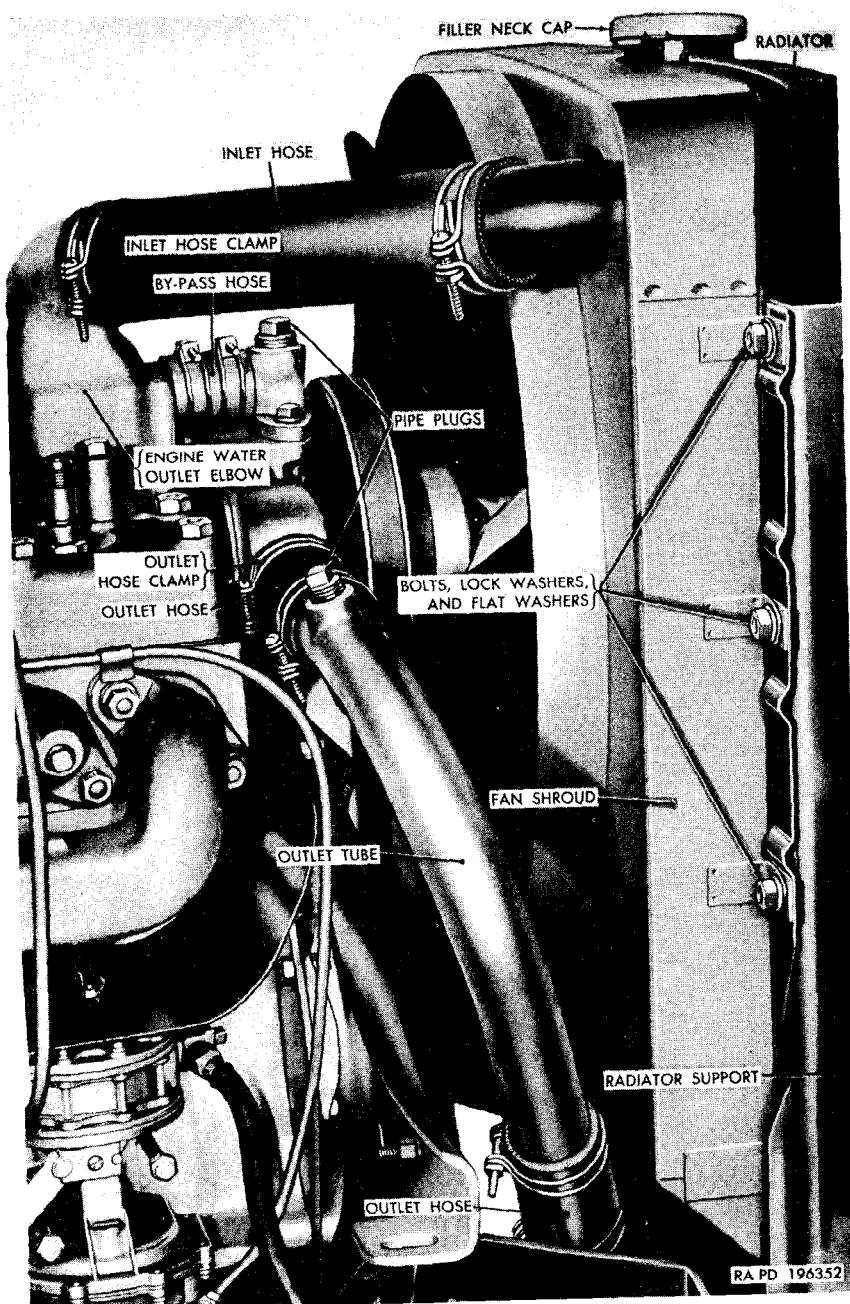
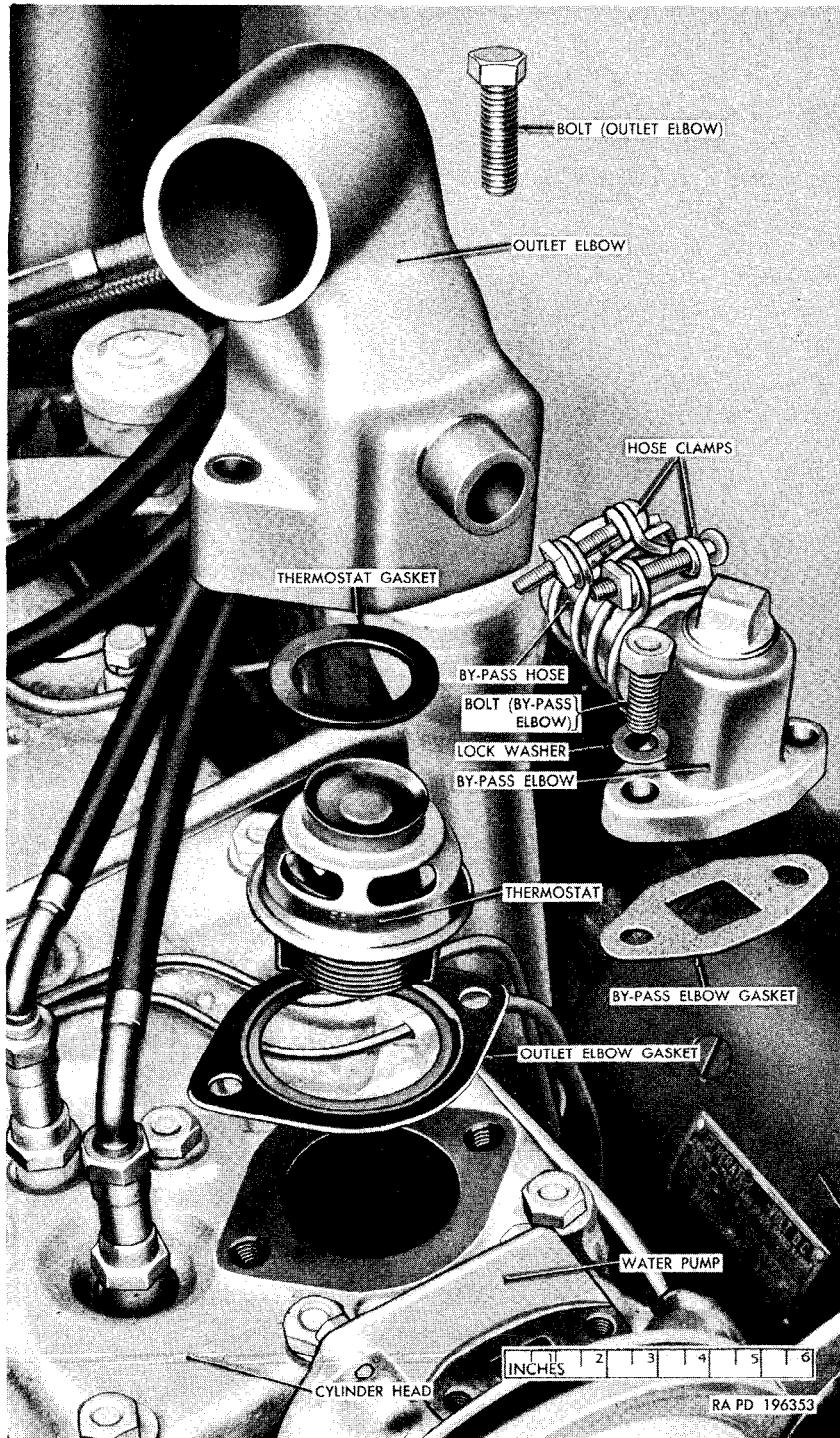

Figure 119. Radiator and hoses.
Figure 120. Water outlet elbow, thermostat, and related parts.
- (1) If radiator is hot, remove the filler neck cap (fig. 119) slowly to permit pressure to escape through the vent in the cap. Open the radiator drain cock (fig. 152) at front lower right corner of the radiator core. If cooling system contains anti-freeze, drain into a suitable container and save for use again.
- (2) Open the drain cock at the left side of the engine block.
- (*b*) Loosen the hose clamps on the radiator inlet hose and outlet hoses and remove the inlet hose and the outlet hoses and outlet tube (fig. 119).
- (b) Remove the radiator inlet hose (fig. 119), the water outlet elbow, and thermostat (fig. 120). Install the outlet elbow and gasket.
- (c) Loosen the hose clamp on the radiator outlet hose (fig. 119) and disconnect the hose from the water pump.
a. Remove Radiator Inlet and Outlet Hoses and Radiator Outlet Tube (fig. 119).
- (1) Drain cooling system (par. 148a).
- (2) Loosen the radiator inlet hose clamps by loosening the clamp screws. Remove the hose with clamps. Remove the clamps from the hose, if hose is to be discarded or clamps must be replaced.
- (3) Loosen the radiator outlet hose upper and lower hose clamps. Remove the outlet hoses and the outlet tube. Remove the clamps from the hoses if the hoses, are to be discarded or the clamps must be replaced.
- (3) Inspect the outlet tube for corrosion damage, cracked weld around pipe plug boss (on vehicles so equipped), or other visual damage. Replace tube as necessary.
e. Install Radiator Inlet and Outlet Hoses and Radiator Outlet Tube (fig. 119).
- (1) Remove the two bolts and lockwashers attaching the water pump bypass elbow to the water pump (fig. 120).
- (2) Loosen the two hose clamps and remove the bypass elbow and hose. Remove the clamps and discard the bypass hose and bypass elbow gasket.
- (3) Install a 1 (ID) $\times 1\frac{5}{8}$ hose on the water pump bypass elbow. Install a $1\frac{3}{8}$ -inch hose clamp on each end of the hose.
- (4) Clean both gasket contacting surfaces, and install a new water pump bypass elbow gasket on the water pump. Install the bypass elbow hose on the engine outlet elbow, and align the bolt holes in the elbow flange with those in the gasket and water pump. Install the two $\frac{5}{16}-18NC \times \frac{3}{4}$ bolts with $\frac{5}{16}$ -inch lockwashers through the bypass elbow and gasket. Tighten bolts evenly.
- (5) Position both clamps and tighten screws.
- (6) Fill the cooling system (par. 148b).
- (3) Remove the two bolts and lockwashers that attach the water pump bypass elbow to the water pump (fig. 120).
- (4) Remove the two bolts that secure the engine water outlet elbow to the cylinder head, and remove the outlet elbow and bypass elbow as a unit. Remove and discard the bypass elbow gasket.
- (5) Remove the thermostat, the thermostat gasket, and the outlet elbow gasket. Discard gaskets.
- (1) Clean the gasket contacting surfaces and hose contacting surfaces thoroughly. Apply a coating of liquid-type gasket cement to both sides of a new outlet elbow gasket and a new bypass elbow gasket (fig. 120).
- (2) Install the outlet elbow gasket on the cylinder head and the bypass elbow gasket on the water pump.
- (3) Install a new thermostat gasket on top of the thermostat, and install the thermostat in the cylinder head with the word FRONT toward the radiator and coils of thermostat down into block.
- (4) Mount the assembled elbows in position and install the two $\frac{3}{8}$ -16NC x 2 bolts in the outlet elbow and the two $\frac{5}{16}$ -inch lockwashers and $\frac{5}{16}$ -18NC x $\frac{3}{4}$ bolts in the bypass elbow. Tighten all bolts evenly.
- (5) Apply liquid-type gasket cement to the outlet elbow at the hose connection. Install the radiator inlet hose on the elbow, and tighten the hose clamp.
- (3) Remove fan and fan drive pulley.
- (4) Remove the three bolts, lockwashers, and flat washer which secure each side of the fan shroud and radiator to the radiator support (fig. 119).
- (5) Move the fan shroud back out of the way over the water pump, move the radiator back far enough to clear the upper baffle, and lift out the radiator.
- (1) Position the radiator in the radiator support.
- (2) Position the fan shroud, alining the bolt holes in shroud and radiator with those in the radiator support.